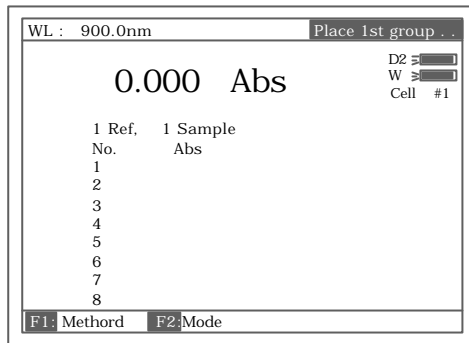
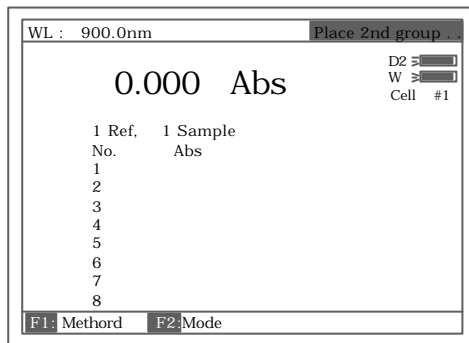

Fig 105
Fig 106
7. Press **START**, the screen display as Fig105, the "Place 1st group..." appear on the right of top line, Press **0Abs/100%T**, the 8 references are taken automatically and the screen change to Fig 106.